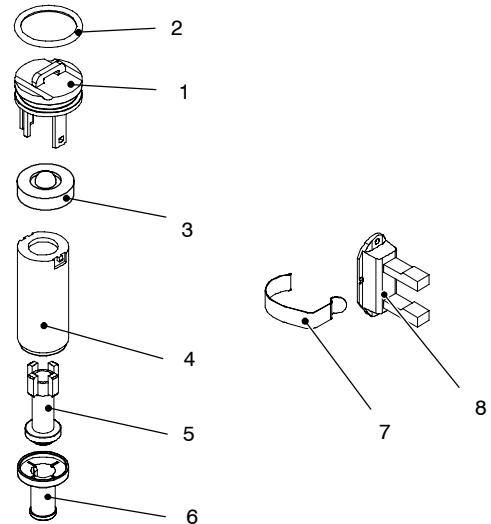

Fig. 70
14.2 Description and location of parts (Fig. 70)
- 4 To remove the filter from the flow switch group separate the filter 6 from the body 4 (Fig. 70) by levering it.